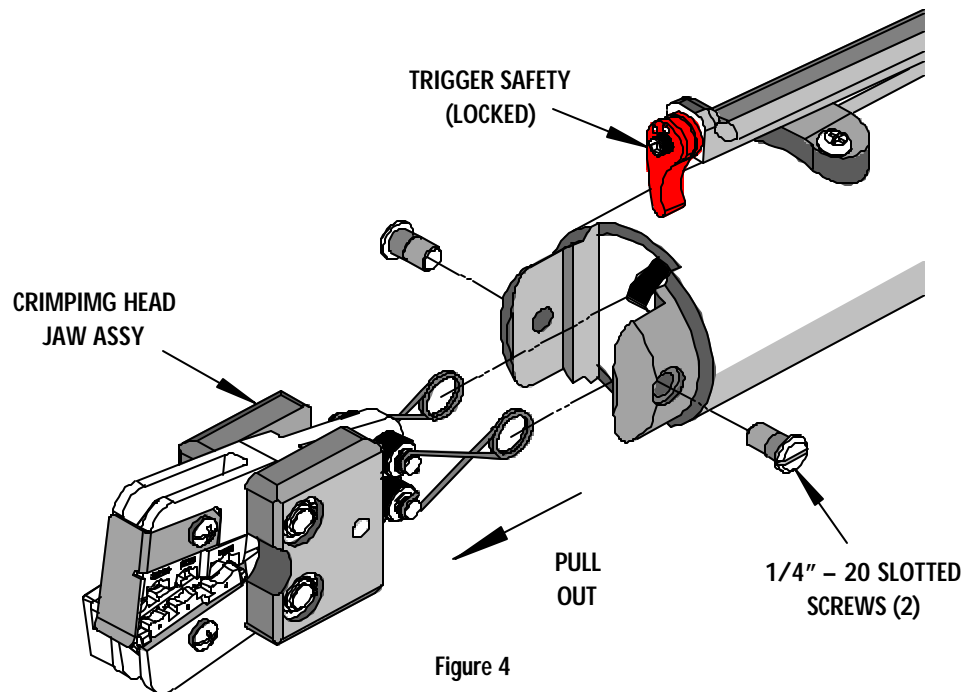

Figure 4
2. Remove the two 1/4" – 20 slotted screws on both sides of power unit. Pull crimp tool head jaw assembly out of tool (See Figure 4).
For new style crimp head tools, if the insulation part of the crimp needs to be adjusted, first loosen the M4 screw on the bottom tool jaw, then insert a 3/32 Hex wrench (supplied) into the bottom of the lower die (See Figure 4). A clockwise (CW) rotation decreases insulation crimp while a counter-clockwise (CCW) rotation increases insulation crimp. After adjusting retighten the M4 screw.